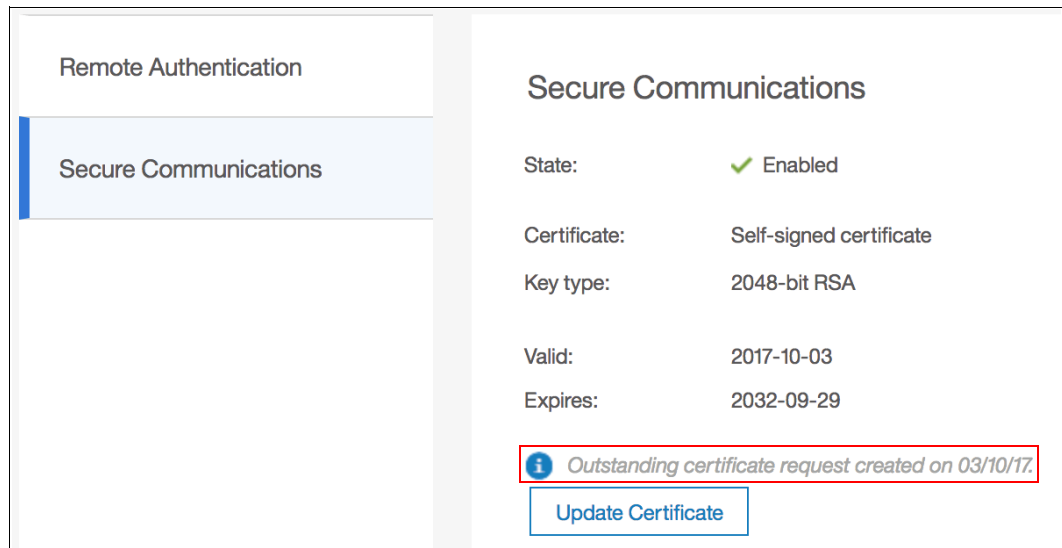

Figure 7-36 Outstanding certificate request
4. Save the generated request file. The Secure Communications window now mentions that there is an outstanding certificate request, as shown in Figure 7-36 on page 267. This is the case until the associated signed certificate is installed.